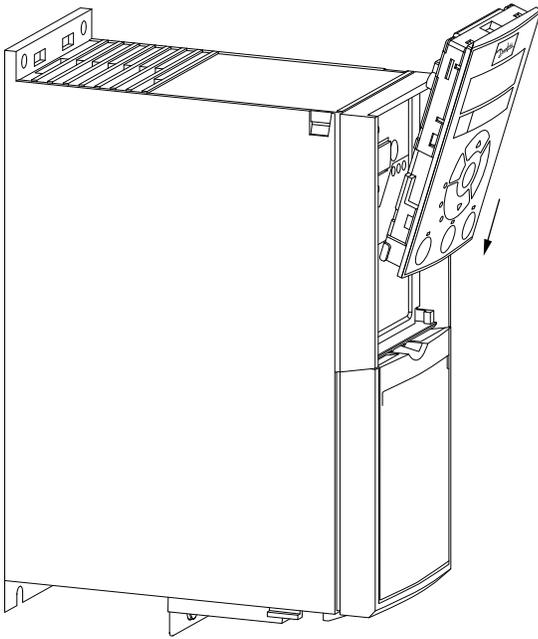

Fig. 67 — Aligning Bottom of VFD Keypad with Opening in VFD Front Panel
- 1. Place the bottom of the VFD keypad into the variable frequency drive as shown in Fig. 67.